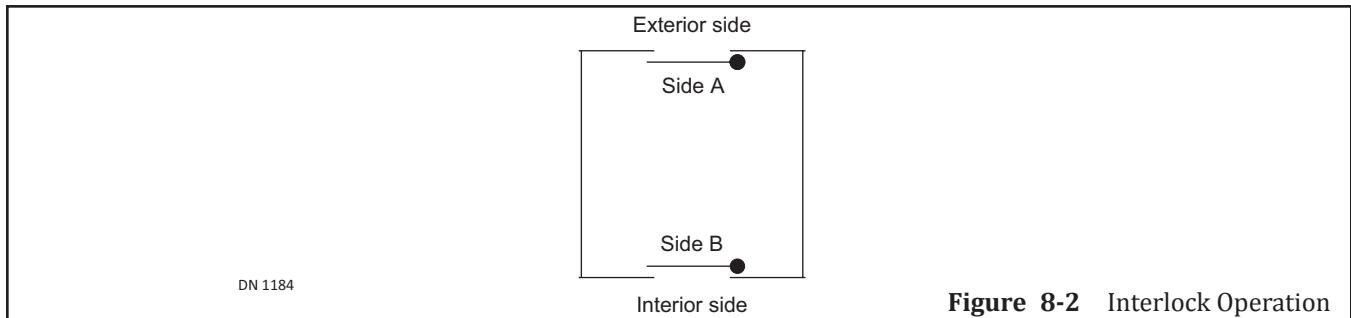

Figure 8-2 Interlock Operation
1. Plug both ends of (1) CAN Cable into each (Socket X117) located on each GT20 Control, to connect both Operator Assemblies.
3. For the Exterior Door Panel (A), select the Parameter: InterL
- a. Please see Figure 8-2.
5. For the Interior Door Panel (B), select the Parameter: InterL